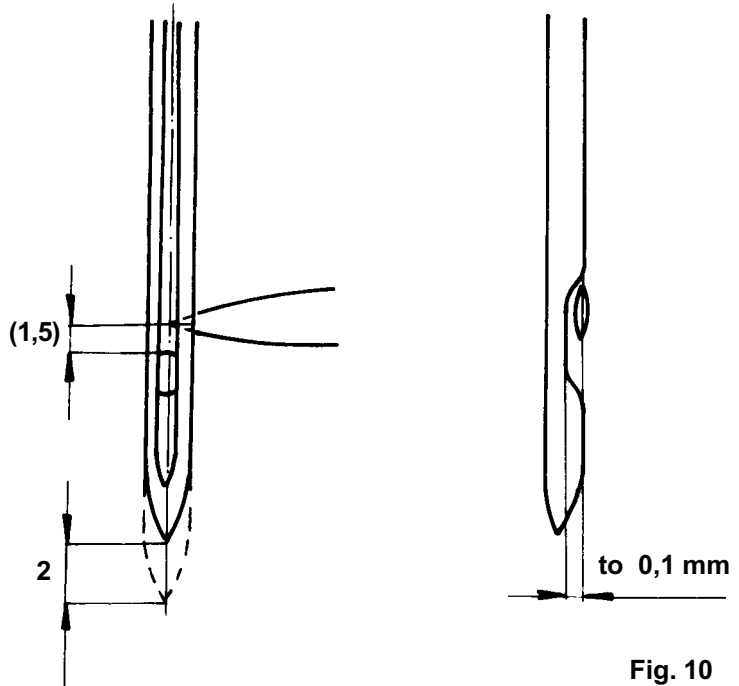

Fig. 10
10. To adjust the hook course (Fig. 10)